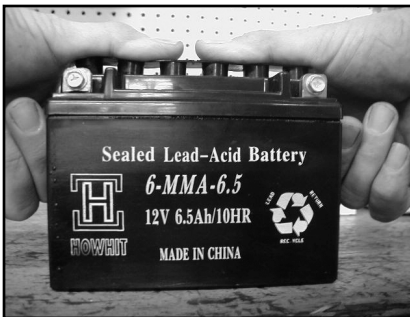

FIGURE 26
- After charging is complete, press down firmly with both hands to seat the caps. (Do not pound or hammer.) The battery is now sealed. **(see figure 26 and 27)**